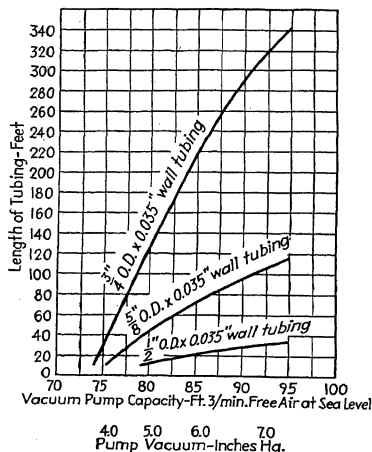

Fig. 85.—Chart showing requirements of system.
**Air System.**—The range of engine speeds and altitudes through which the gyropilot will operate will depend entirely on the air system installation. The vacuum pump pulls air from the gyropilot in order to maintain a reduced pressure (suction) in the equipment. The suction causes outside air to flow into the equipment through filters to operate the gyros, the air pick-offs, air relays, and air motor. A suction of 3.5 to 5.0 in. Hg is required to produce satisfactory operation of the equipment. Pumps supplied or recommended by Sperry will maintain this suction at 1,000 to 1,200 engine r.p.m. up to 5,000 ft., barometric altitude, and at engine cruising r.p.m. at the service ceiling of the airplane. To obtain these results, however, it is absolutely necessary that the drop in the system between the gyropilot and the vacuum pump be such as to require a suction of not more than 7 in. Hg at the vacuum pump. The curve chart of Fig. 85 shows the maximum